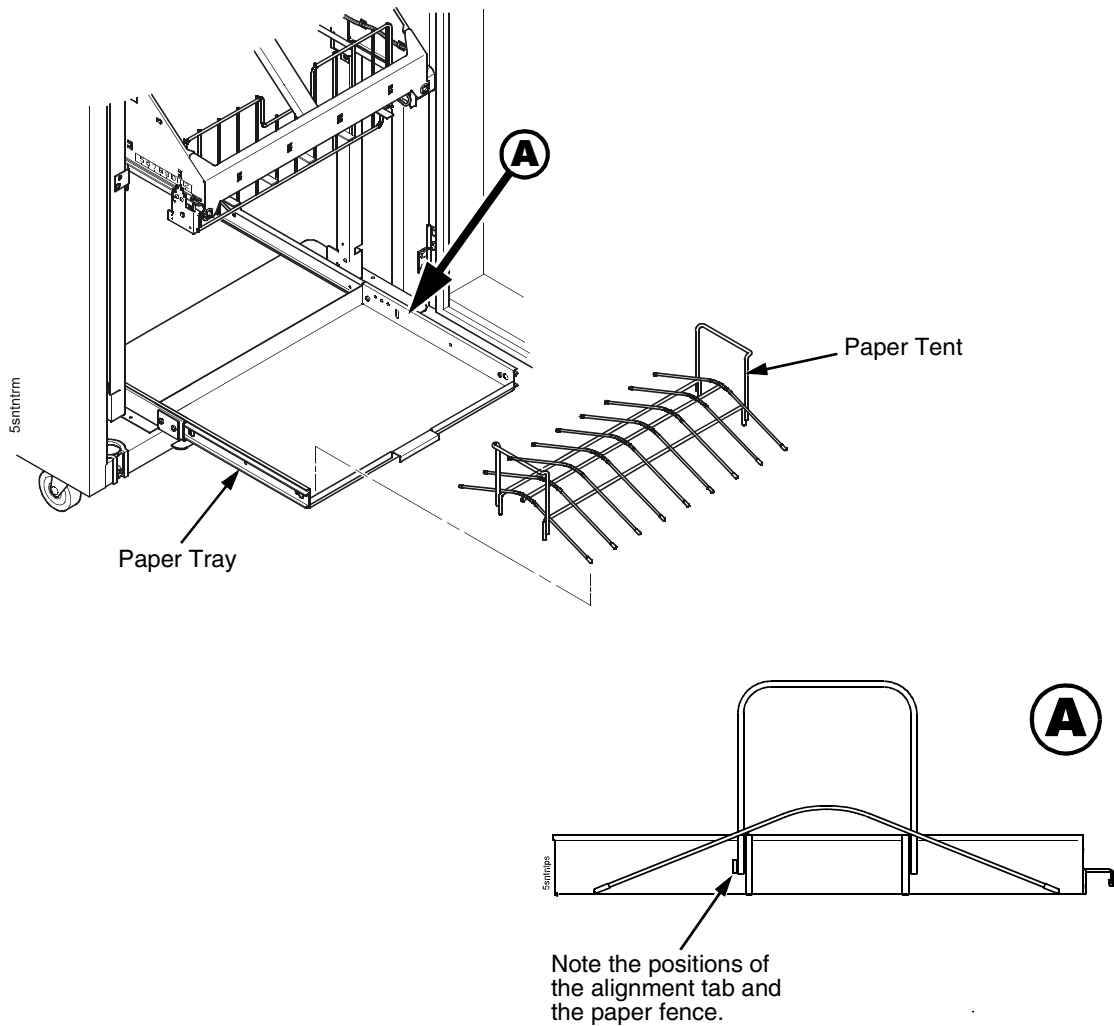

Figure 92. Paper Tent
34. If the paper you will use is not wider than 15.5 inches (39.5 cm), pull out the paper tray and install the paper tent. (Figure 92.) If the paper is wider than 15.5 inches (39.5 cm) leave the paper tent out of the printer